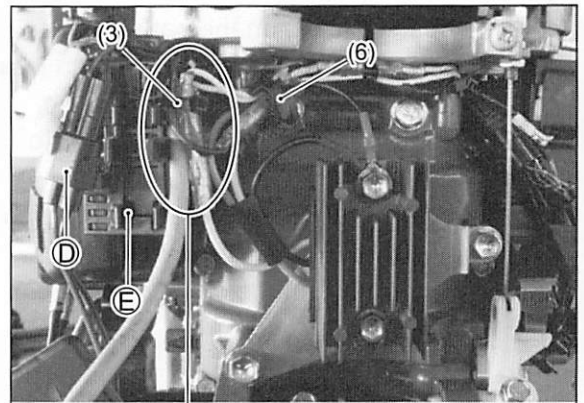
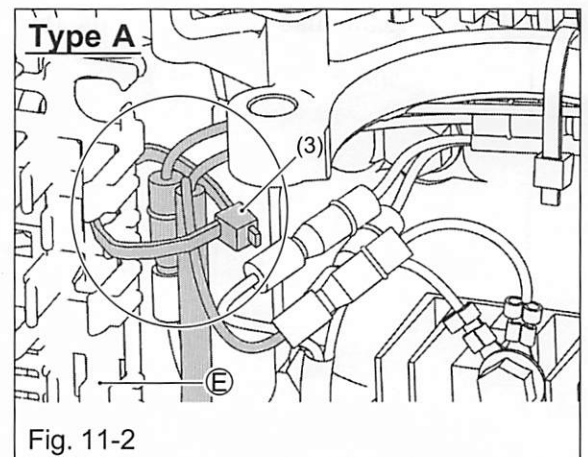

Fig. 10
Fig. 11-2
13. Remove the emergency SW connector ① from the connector holder ②.
Fix the clamp (3) the lighting receptacle assy GND wires by bending. Clamp with care so that the pawl of the connector holder should not be caught as shown in Fig. 10 -Fig.11-2.